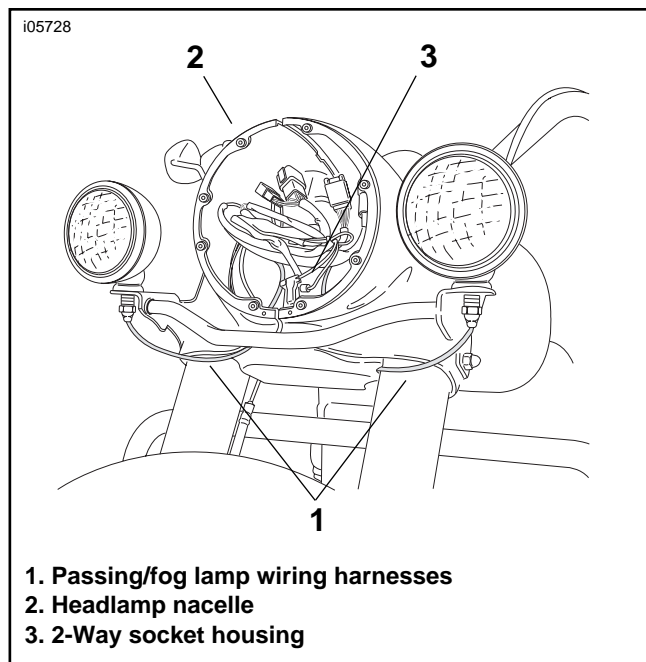

Figure 5. Route Passing/Fog Lamp Wires into Headlamp Nacelle
17. See Figure 5. Route the passing/fog lamp wires (1) through the opening at the bottom of the headlamp nacelle (2).
19. See Figure 5. Connect the 2-way socket housing (3) to the spotlight switch harness connector.